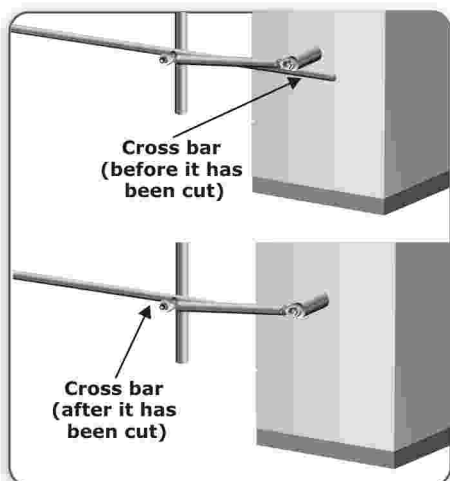

FIGURE 12. CUT THE CROSS BAR SHORTER
1. Cut the cross bar shorter as shown in Figure 12.